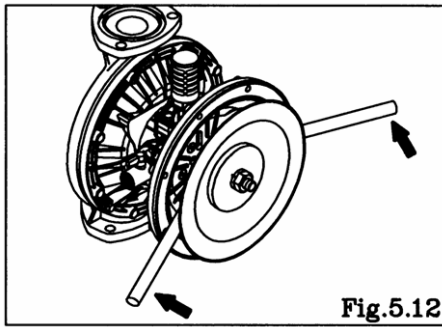

Fig.5.12
- Grip the inside center disk using crowbars and draw it to the opposite side, then turn the diaphragm over. (exclude B_H, B_S types) [Fig.5.12, 5.13]